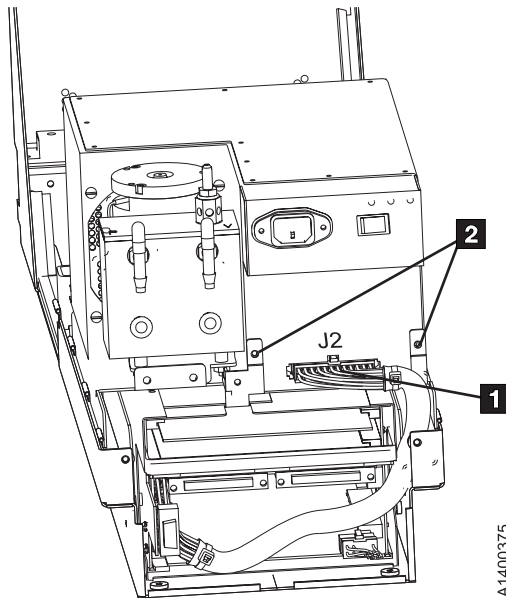

Figure 354. Power Supply Cable
4. See Figure 354. Disconnect the power supply cable **1** from the power supply at connector J2.